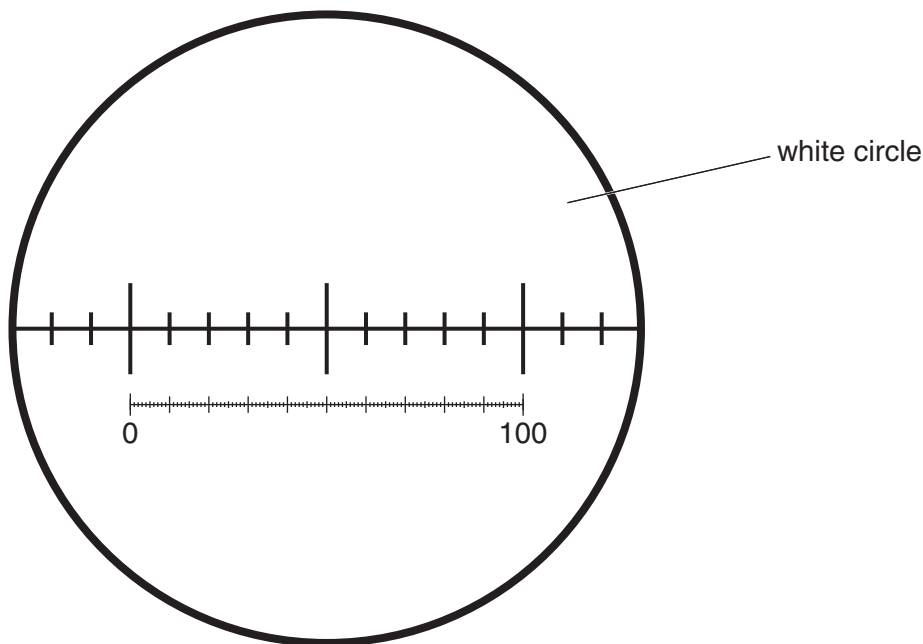
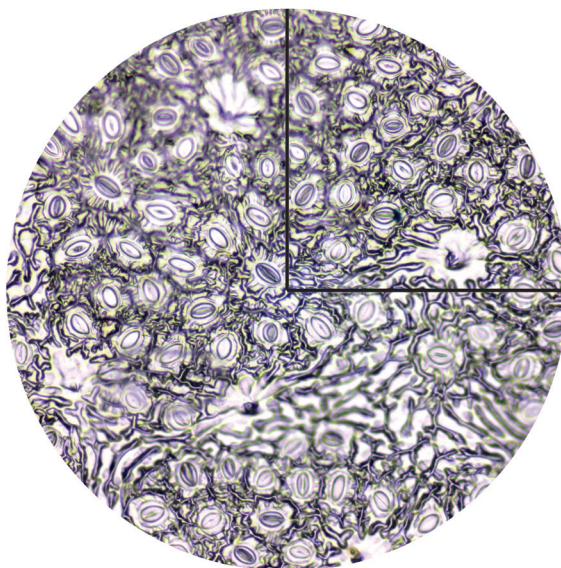
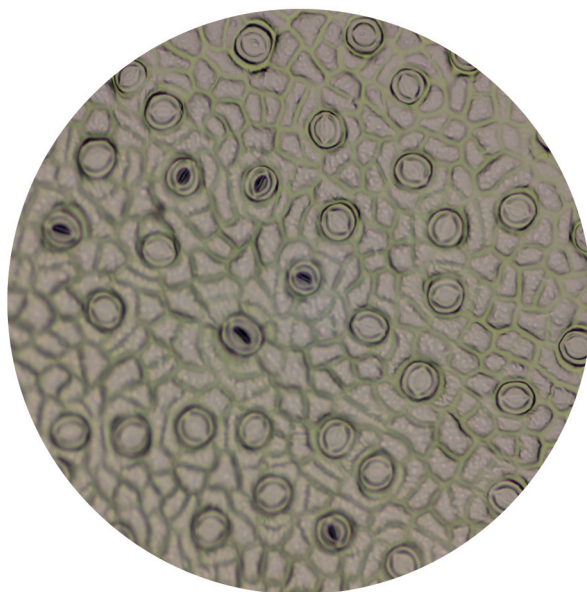

Fig. 2.2
Fig. 2.3
Fig. 2.4
Fig. 2.2 shows a stage micrometer viewed through a microscope with an eyepiece graticule scale.
- find the area of the field of view, using Fig. 2.2
- count the number of stomata in a quarter of the field of view, using Fig. 2.3 (on page 14)
Fig. 2.3 is a photomicrograph of the lower surface of a leaf, with the same field of view as Fig. 2.2.
Fig. 2.3 shows stomata on a leaf surface. There are too many stomata to count so the technique of sampling may be used to estimate the number of stomata in the field of view.
(ii) Count and record the **sample number** of stomata in the quarter of the field of view shown in Fig. 2.3.
- Mark clearly **on Fig. 2.3** each of the stomata counted.
Fig. 2.4 is a photomicrograph of the lower surface of a different leaf, with the same view (using the same lenses) as Fig. 2.3.
- (c) Prepare the space below so that it is suitable for you to record the observable differences between the surface of each leaf shown in Fig. 2.3 and Fig. 2.4.